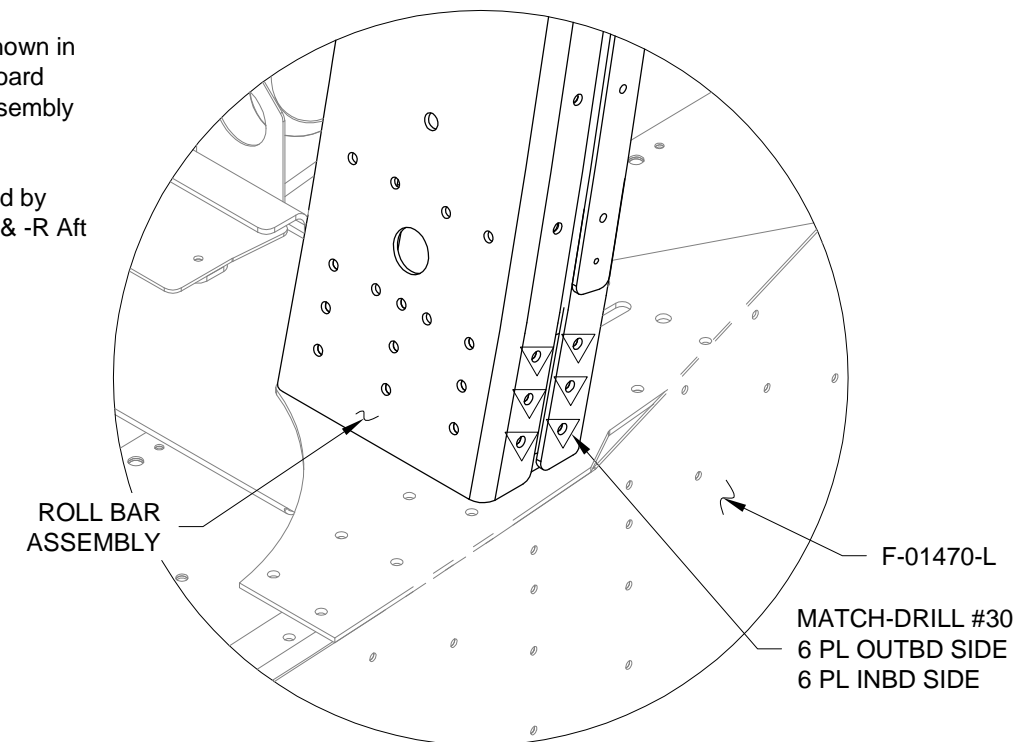

FIGURE 3: MATCH-DRILL ROLL BAR BASES
Step 1: Remove clecos from the F-01474-L &-R Aft Fuse Top Side Skins as required to temporarily pull the top skins away from F-01470 Fuselage Side Skins and Roll Bar Assembly. See Figure 1 and Figure 3.
Match-Drill #30 the roll bar bases (shown in Figure 3). Use the holes on the outboard and inboard sides of the Roll Bar Assembly as guides.